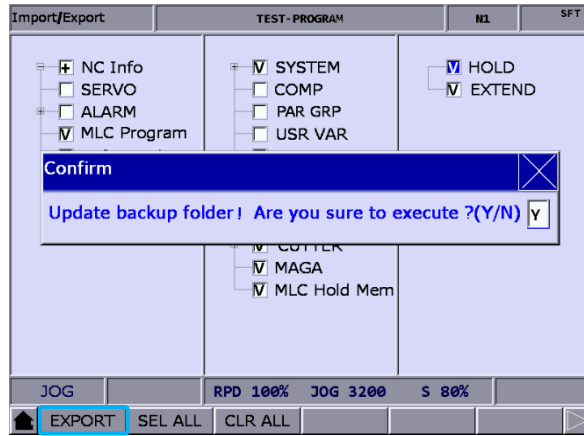

Figure 9.9.3
- (8) If you save the exported file to a folder where an exported file already exists, a confirmation window appears as shown in Figure 9.9.3. Enter "Y" and press **ENTER** to replace the existing file with the newly exported file.